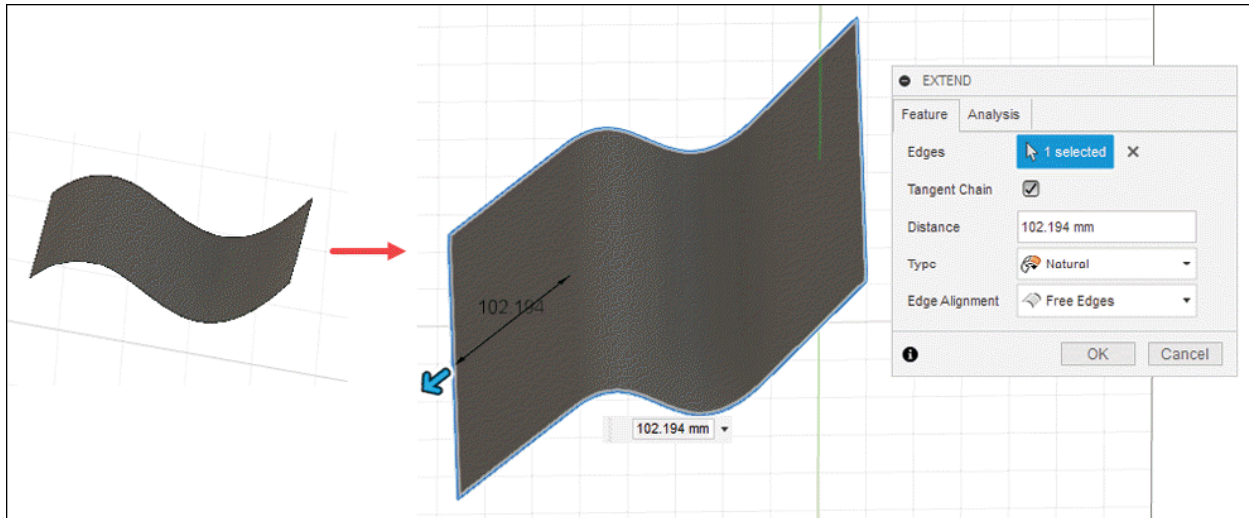

Figure-25. Preview of extend
- The **Select** button of **Edges** section is active by default. You need to select the edge to extend. The updated **EXTEND** dialog box will be displayed; refer to Figure-25.